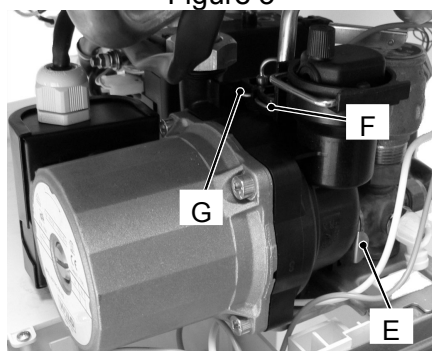

Figure 4
- 6) Remove the forks F and G (Figure 4).
- 7) Remove the locking plate E right (Figure 4).